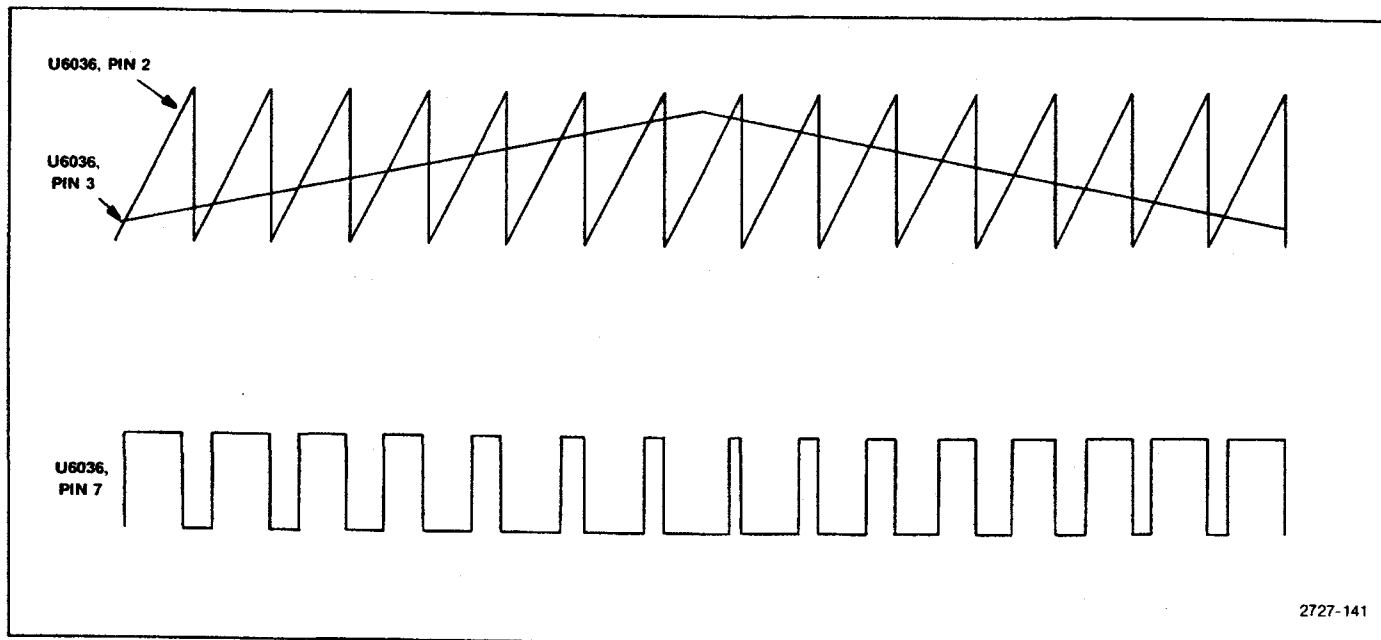

Figure 7-34. Primary regulator input and output waveforms.
**Primary Regulator.** The primary regulator circuit consists of comparator U6036 and U6046, photocoupler U6043, and related components. The circuit varies the duty cycle of the driving signal for the inverter. The +17 V is divided by R6038 and R6037 to approximately +4.8V and applied to the inverting input of U6036. The +5 V reference is applied through R6022 to the non-inverting input of U6036, where it is combined with the ramp signal from the ramp generator stage. The non-inverting input receives a sawtooth signal of approximately 500 mV peak-to-peak superimposed on a +5 V dc level. This is compared with the +4.8 V on the other input, so the comparator switches with each sawtooth cycle. Note in Figure 7-34 that as the level at pin 3 (which corresponds to the +17 V supply variations)